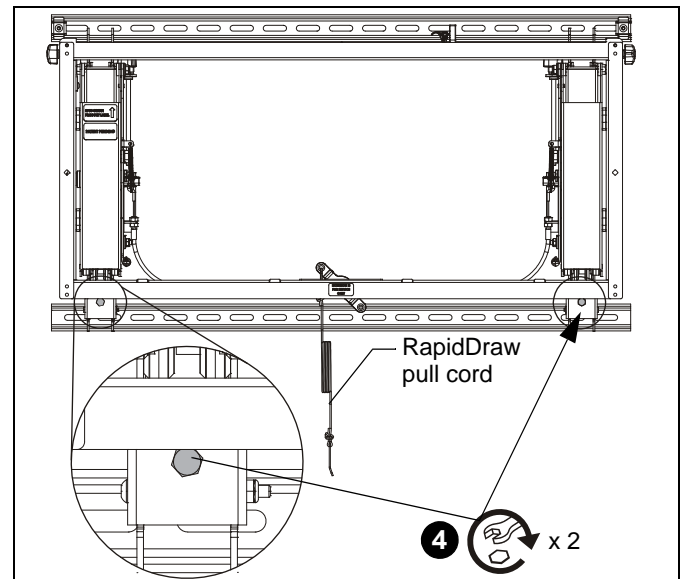

Figure 11
4. Tighten two hex head fasteners at bottom of each mount. (See Figure 11)
6. Extend RapidDraw pull cord to bottom row of displays so that it is accessible, re-tie to correct length and label the pull cord using label (Y) so that it is identifiable. (See Figure 11)
1. Raise display with attached interface brackets and hook top of brackets into top of mount. (See Figure 11)